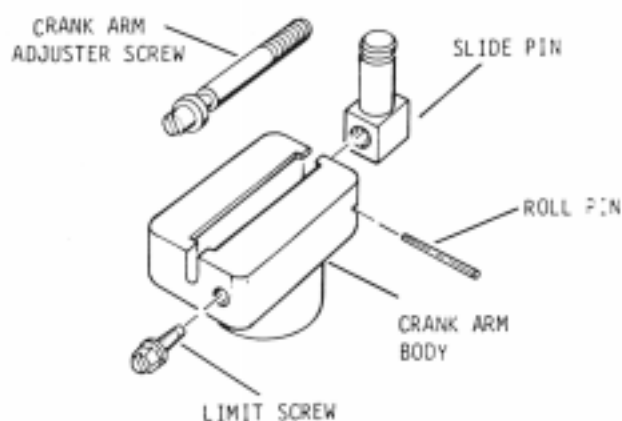

FIGURE 4. ASSEMBLING THE CRANK ARM ASSEMBLY
4. REMOVAL AND SEPARATION OF ACTUATOR ARM AND PISTON (See Figure 4)
5. ASSEMBLING THE CRANK ARM ASSEMBLY (See Figure 4)